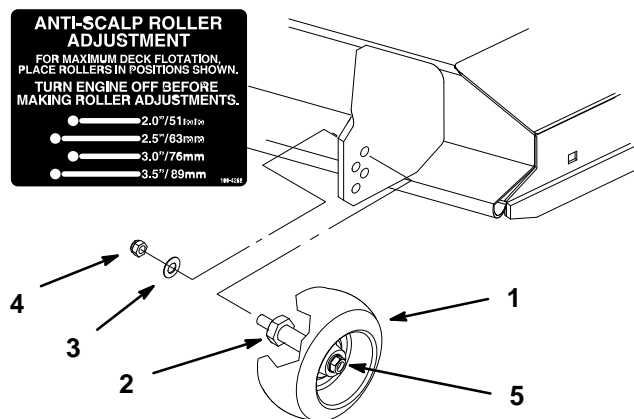

Figure 12
2. After adjusting height-of-cut remove flange nut and spring disk while holding stud with wrench (Fig. 12).
**Note:** Do not remove the wheel nut and washer (Fig. 12).
3. Select hole so gage wheel is positioned to the nearest corresponding height-of-cut desired (Fig. 12).
4. Reinstall the flange nut and spring disk (Fig. 12).